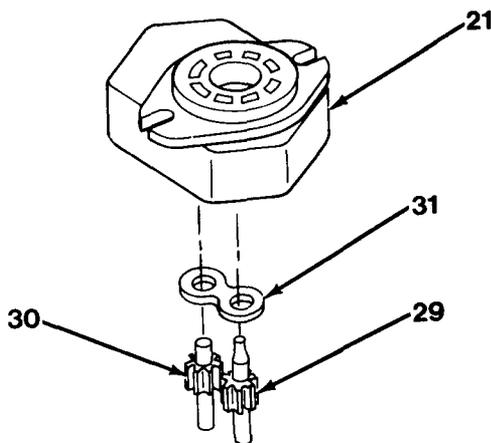

Figure 13-5
5. Align matchmarks and install driven gear (30) and driving gear (29) into front body (21, Figure 13-5).